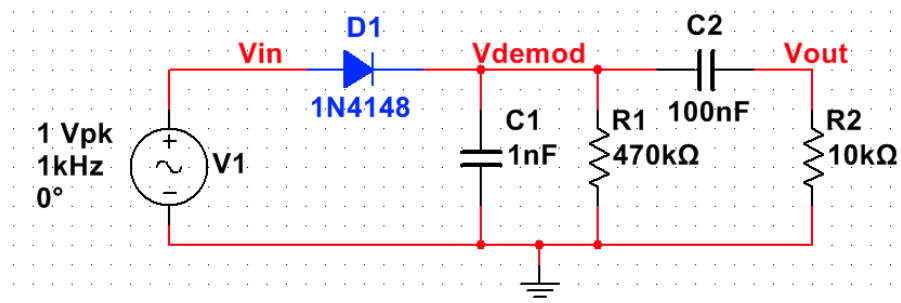

FIGURE 3: AM demodulator schematic
12. Calculate the  $R_1 C_1$  time constant of the AM demodulator in figure 3.
Create a new blank design and draw the schematic of the AM demodulator circuit shown in figure 3. Save your design.